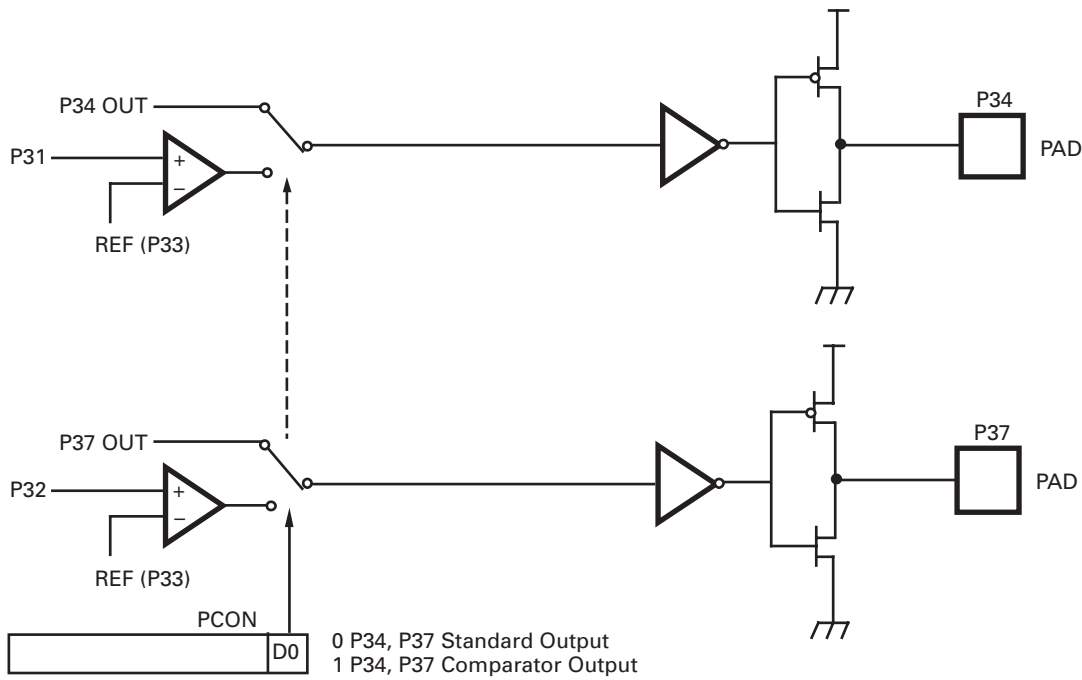

Figure 16. Port 3 Configuration
**Comparator Inputs and Outputs.** Port 3, pins P31 and P32 each feature a comparator front end. The comparator reference voltage, pin P33, is common to both comparators. In analog mode, the P31 and P32 are the positive inputs to the comparators and P33 is the reference voltage supplied to both comparators. In digital mode, pin P33 can be used as a P33 register input or IRQ1 source. P34 and P37 outputs the comparator outputs by software-programming the PCON Register Bit D0 to 1 (see Figure 16).